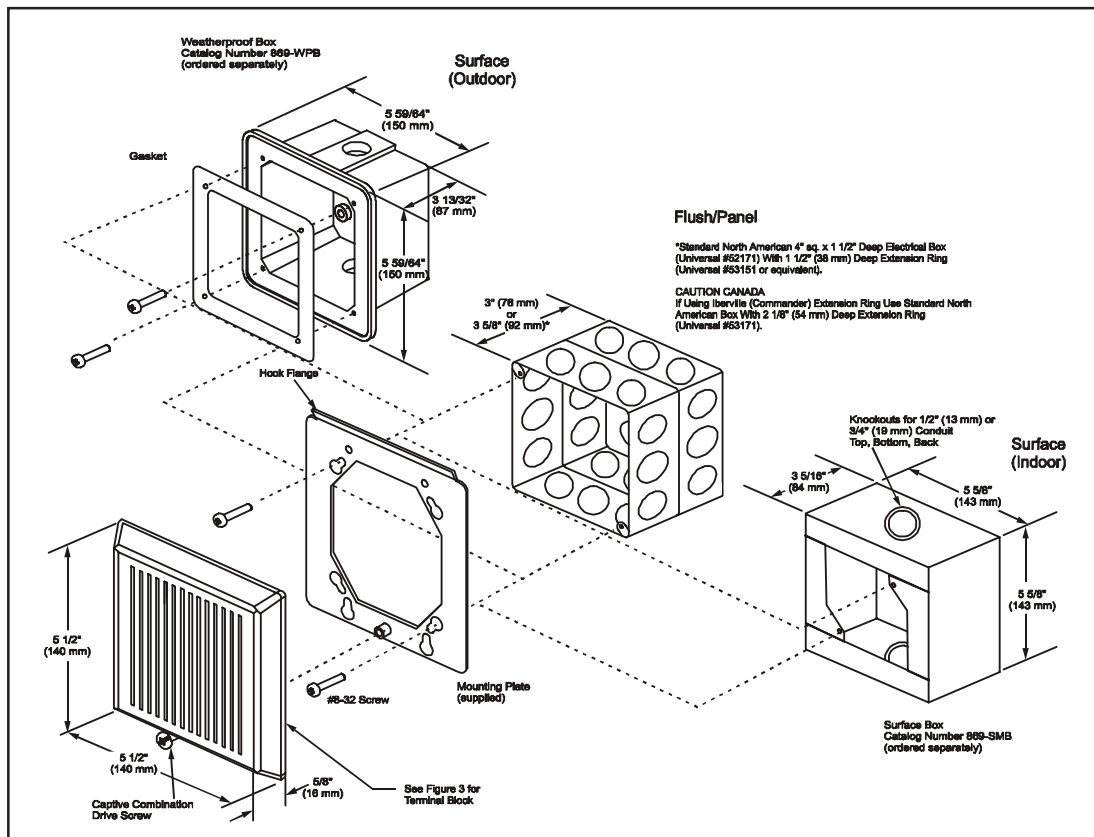

Figure 1. Detailed View
See Table 2 and Figure 1 for specifications.
- Select mounting method as detailed in Figure 1 and install the electrical box (not supplied) using suitable hardware.
**NOTE:** Be sure hook flange is facing outward as shown in Figure 1.
6. Mount the horn assembly on the mounting plate (Figure 1).